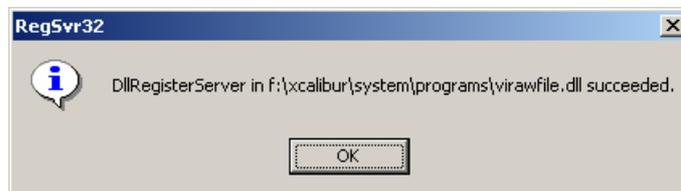

FIGURE 2-12 The Registration Information Dialog Box
- c) Double click on the 'VIRawfileReg.bat' file. A dialog box with the registration information appears (FIGURE 2-12).